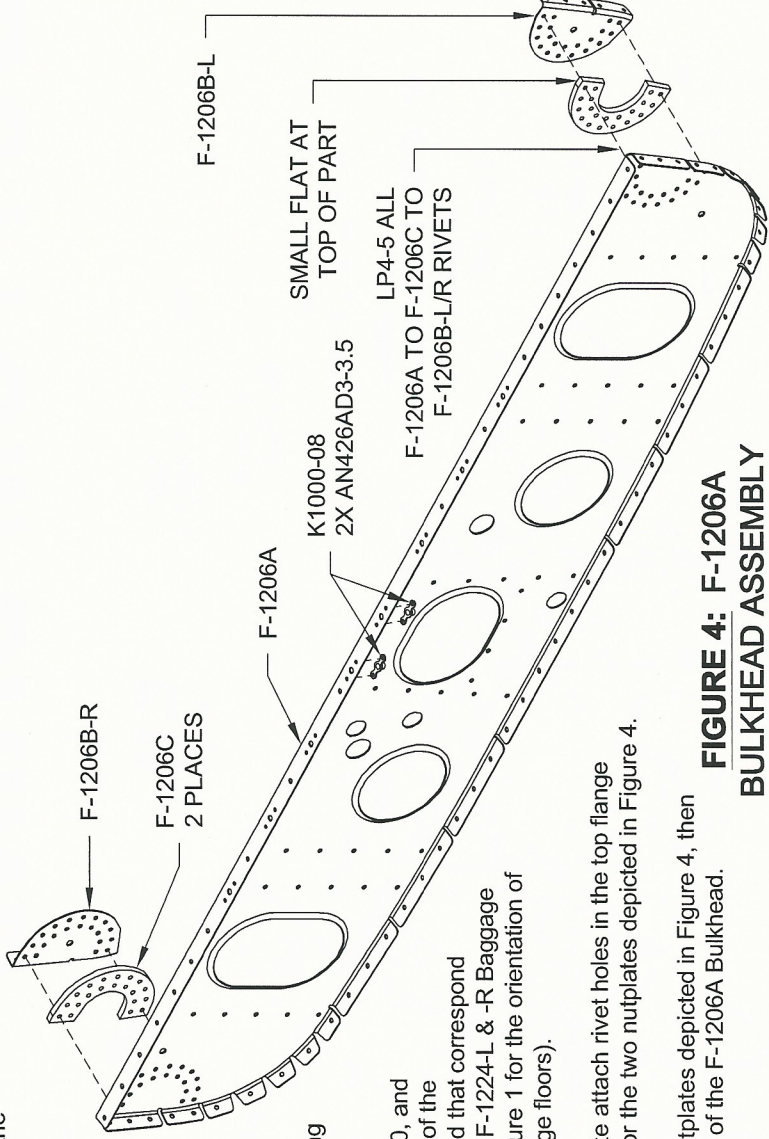

FIGURE 4: F-1206A BULKHEAD ASSEMBLY
Step 8: Rivet the F-1206B-L & -R Rear Spar Receptacle Supports and the F-1206C Rear Spar Receptacles to the F-1206A Bulkhead using the rivets called out in Figure 4. Insert the rivets in all the holes before setting any of them.
Step 10: Dimple the nutplate attach rivet holes in the top flange of the F-1206A Bulkhead for the two nutplates depicted in Figure 4.
Step 11: Dimple the two nutplates depicted in Figure 4, then rivet them to the top flange of the F-1206A Bulkhead.